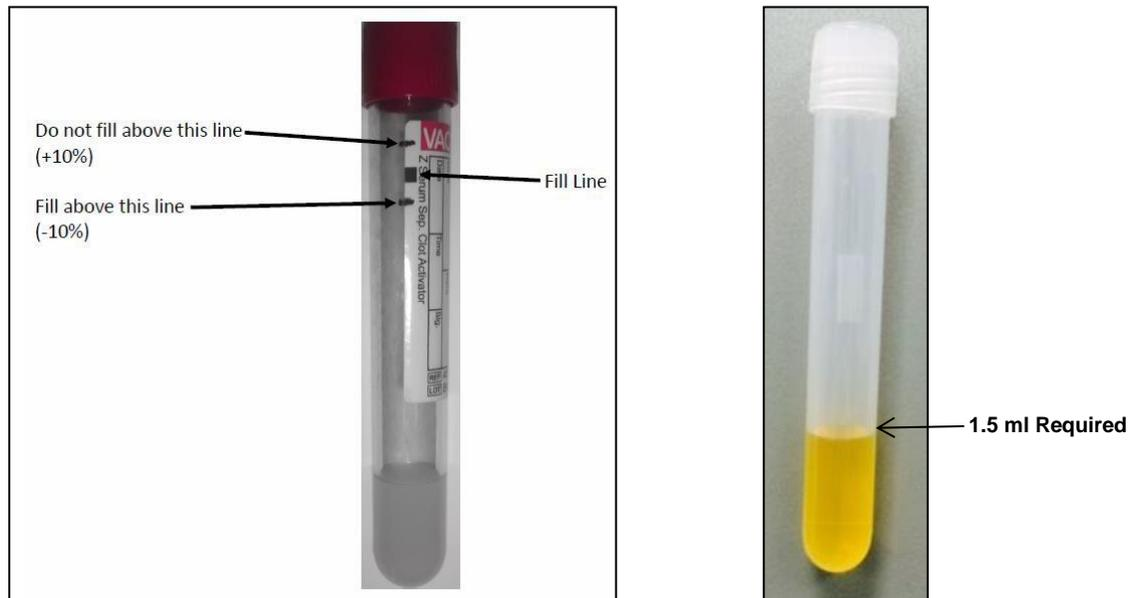

Figure 4 (Volume of Specimen Required for Testing – SST / Pour Off Tube)
- Refer to Figure 4 (Volume of Specimen Required for Testing – SST / Pour Off Tube)